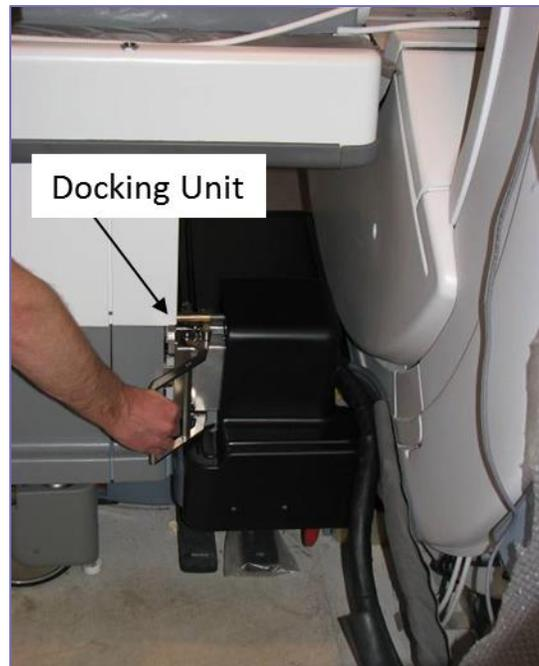

Figure 3-1: Exablate 2100V1 Connection of the Table To the MRI
3. Connect the patient table to the MR scanner (see Figure 3-1):